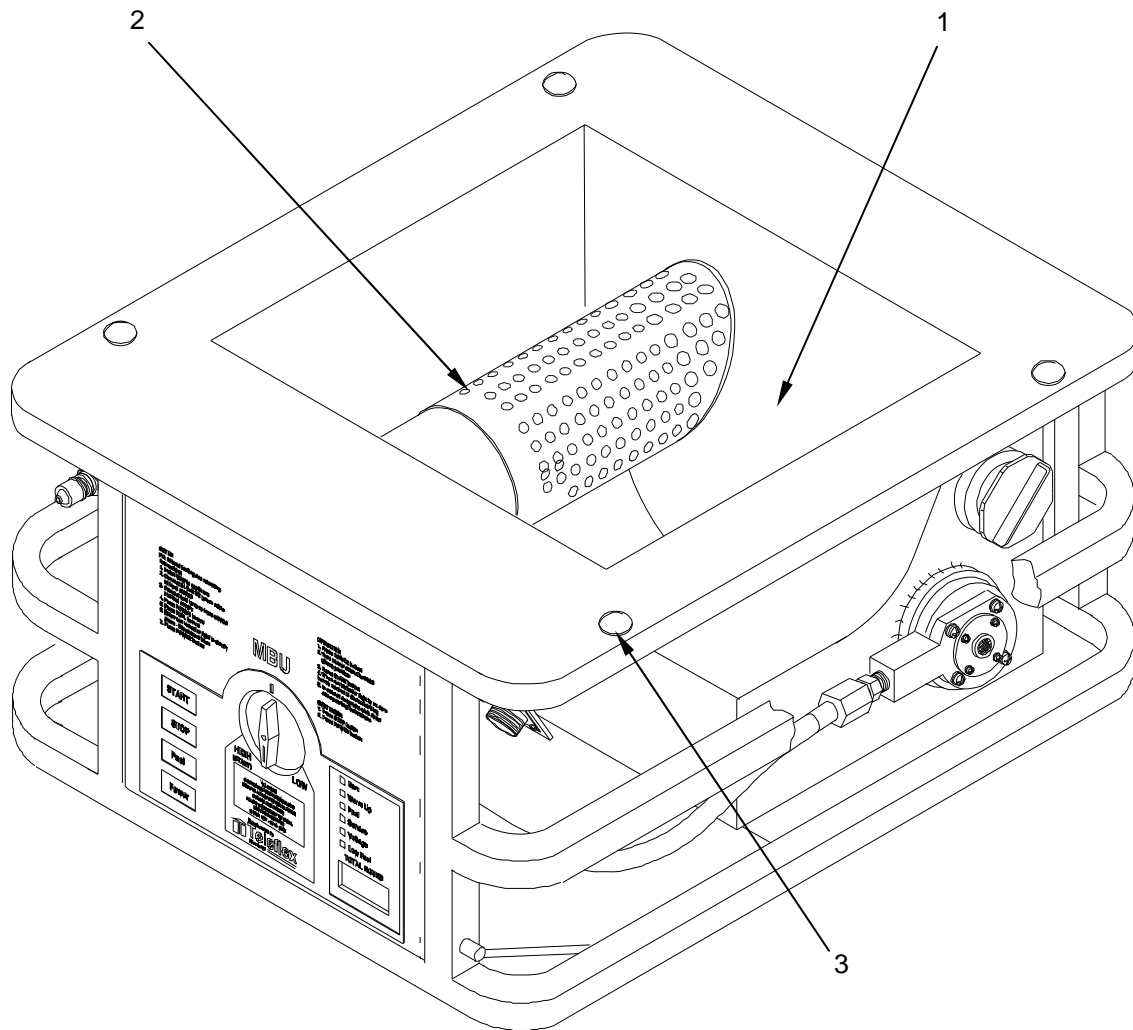
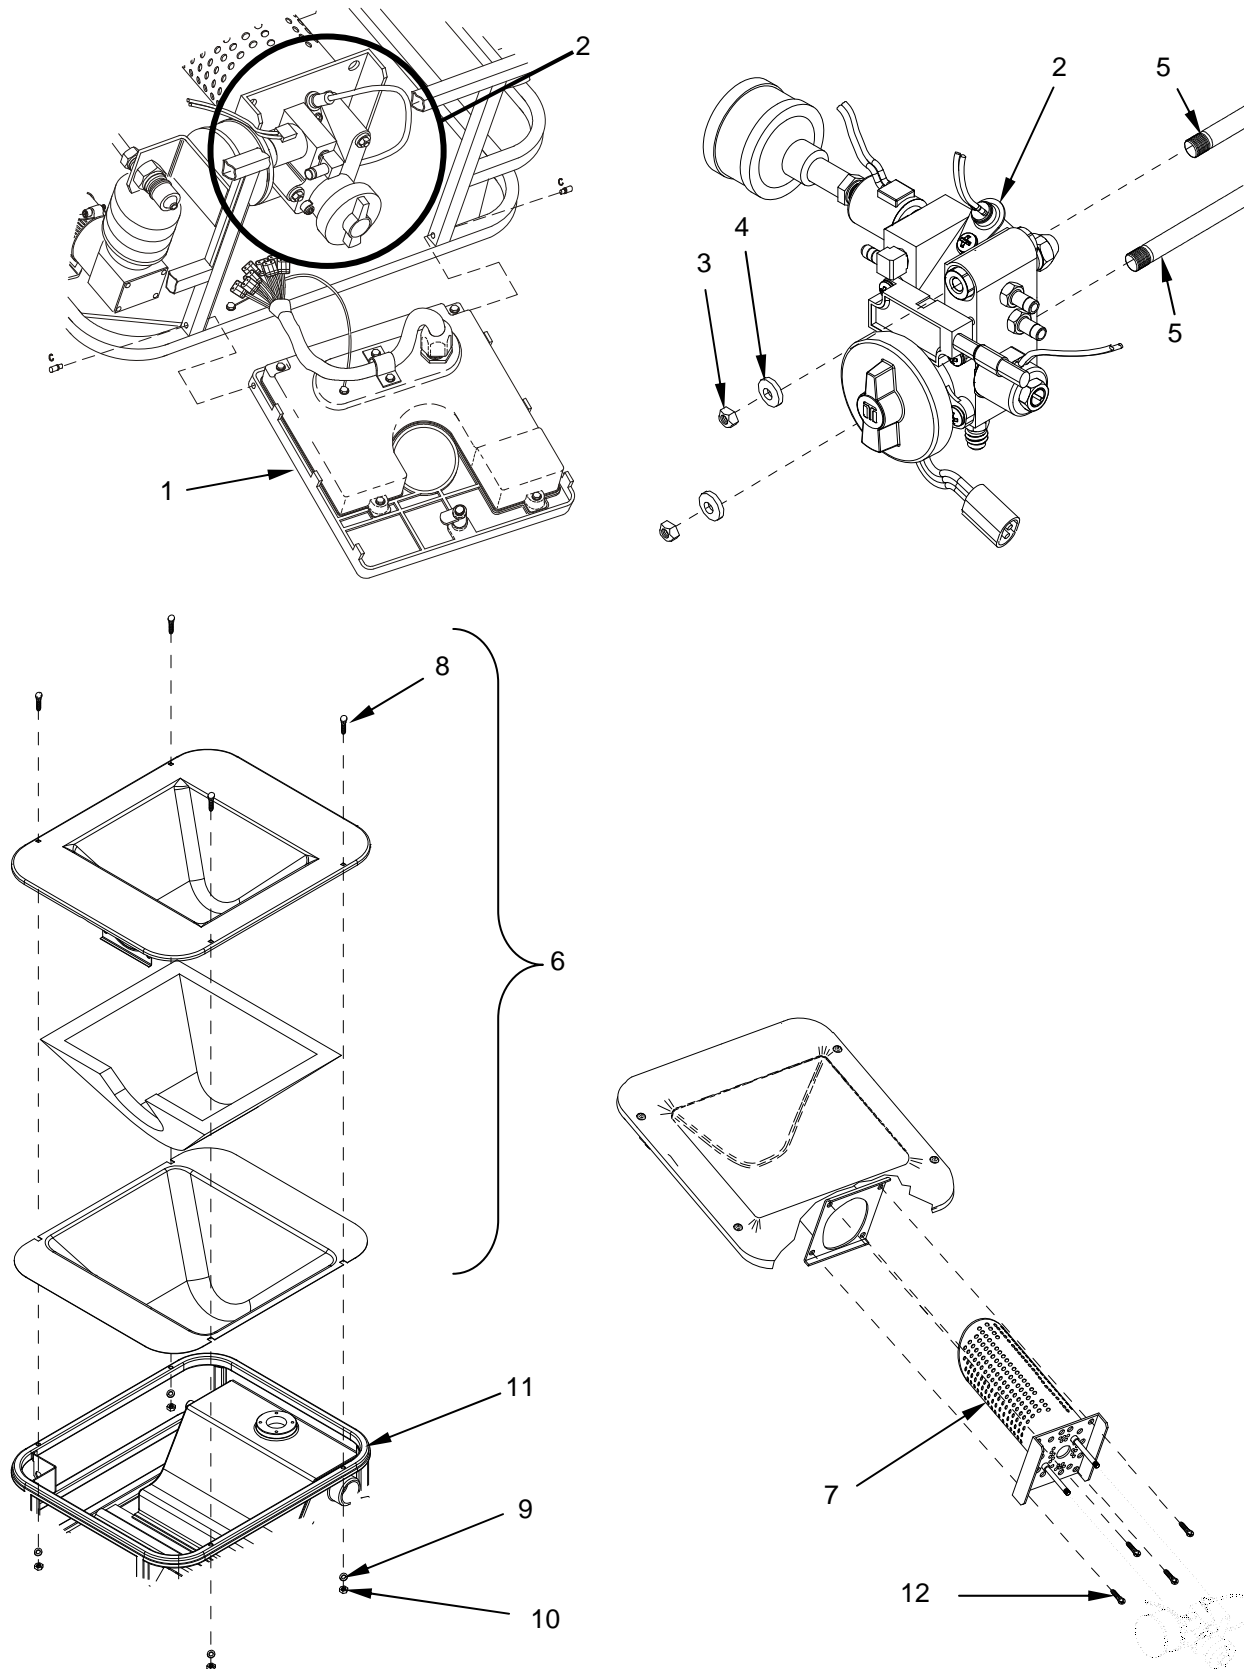

Figure 1. Inspect the Burner Assembly and Reflective Heat Shield Assembly.
Figure 2. Replace the Burner Assembly and Reflective Heat Shield Assembly.
Inspect the reflective heat shield (Figure 1, Item 1) and burner tube assembly (Figure 1, Item 2) for physical damage, such as dents, perforations, or severe warping. Check mounting hardware (Figure 1, Item 3) for security. Check for carbon buildup in the burner tube. Clean if necessary by burning off or washing.
2. Open control panel (Figure 2, Item 1) for access to the fuel delivery block assembly (Figure 2, Item 2).
3. To remove fuel delivery block assembly (Figure 2, Item 2), remove two self-locking nuts and washers (Figure 2, Item 3 and Item 4) that secure the fuel delivery block assembly to the burner tube mounting shafts (Figure 2, Item 5).
4. Slide the fuel delivery block assembly (Figure 2, Item 2) off the burner tube mounting shafts (Figure 2, Item 5).
5. To replace any part of the reflective heat shield assembly (Figure 2, Item 6) or burner tube assembly (Figure 2, Item 7), remove the four carriage bolts (Figure 2, Item 8), washers (Figure 1, Item 9) and self-locking nylon nuts (Figure 2, Item 10) holding the reflective heat shield assembly to the frame (Figure 2, Item 11).
6. Lift the reflective heat shield and burner tube assembly (Figure 2, Item 6 and Item 7) off the MBU frame (Figure 2, Item 11) and place face down on a flat surface.
7. Remove the burner tube assembly by removing the four screws (Figure 2, Item 12). Set screws aside for reassembly.